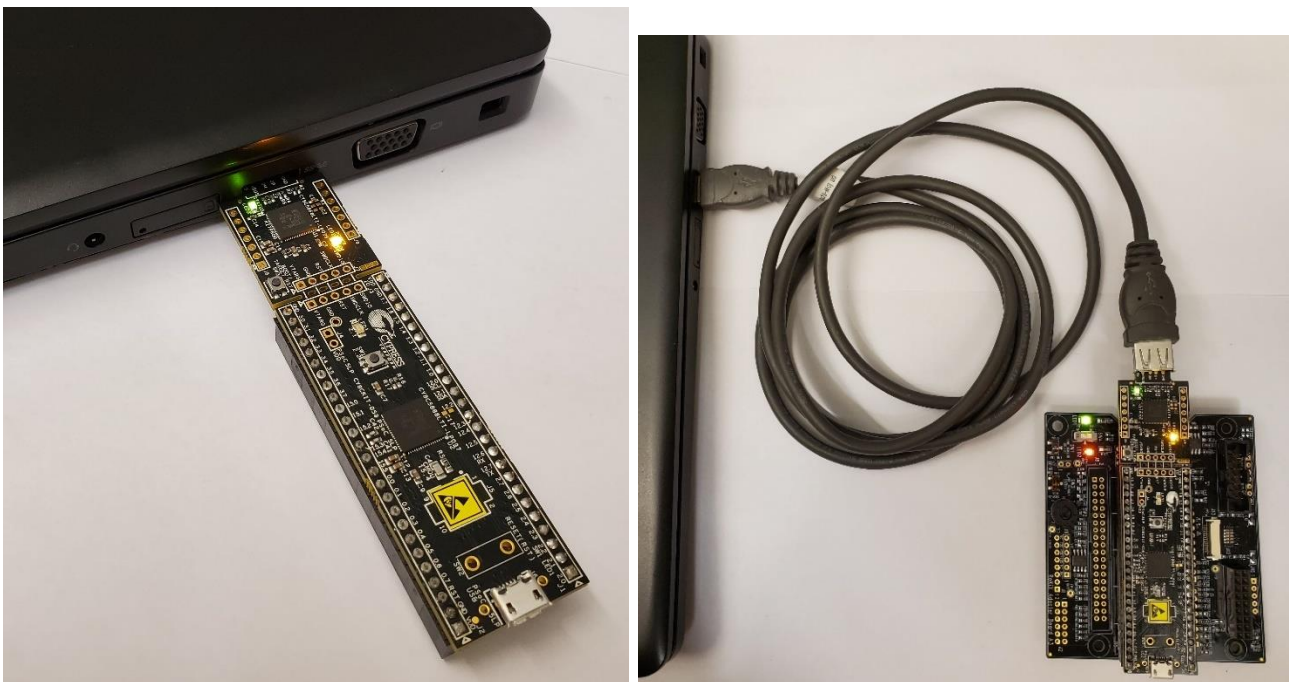

Figure 22. *CY8CKIT-059 Prototyping Kit* Connected to the PC
3. Connect the *CY8CKIT-059 Prototyping Kit* into the USB port of the PC directly or with an *USB extension cable A-Male to A-Female* as shown in Figure 22 (note that firmware flashing is always done via USB-A PCB connector, not micro-USB connector on the other side of the board).